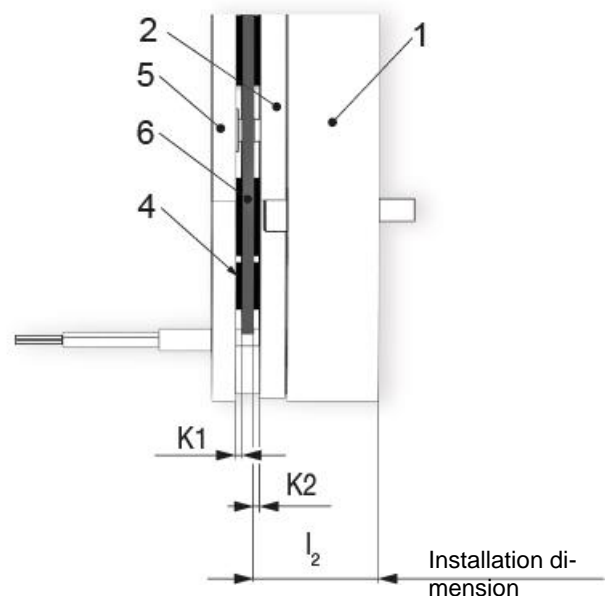

Fig. 3
- ☐ Check installation dimension l₂ as per Chapter 5.2.4 and Figure 3.
1. Observe installation dimension l_2 (Fig. 3)
2. Screw the brake together with the bearing flange using the three bores "s" in the coil carrier (1). The user is responsible for providing the cap screws (8). Sizes and tightening torques see 5.2.2
3. Screw the rotor disk (6) to the motor shaft using the cap screws (11). The user is responsible for providing the cap screws (11). Sizes and tightening torques see 5.2.2
→ See Fig. 3
2. Screw the brake together with the bearing flange using the 3 threads „s1“ in the coil carrier (1).